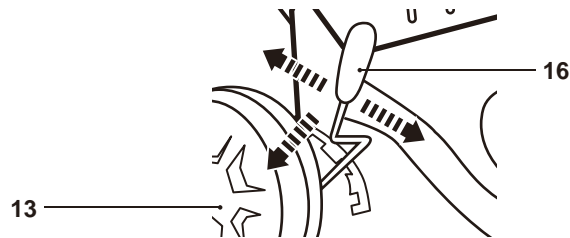

Fig. 16
1. Pull the lever (16) towards the wheel (13), then move it forward or backward to adjust the cutting height (Fig. 16).